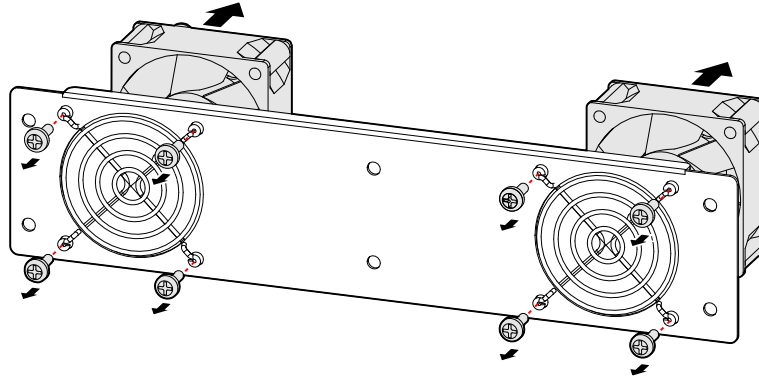

Figure5-3 Dismantle fan
Step 7 Loosen the screws that fixed the fan and take out fans, as shown in Figure5-3.